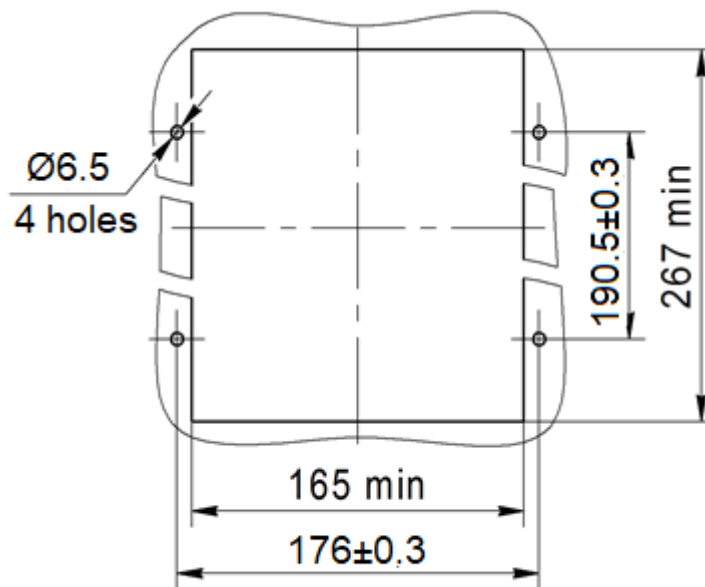

Figure 114 – Panel layout for installation of the ED2 devices of ⅓ 19" design
11.5.2 The layout of the panel for installation of the ED2 devices of ⅓ 19" design is given in figure 114.